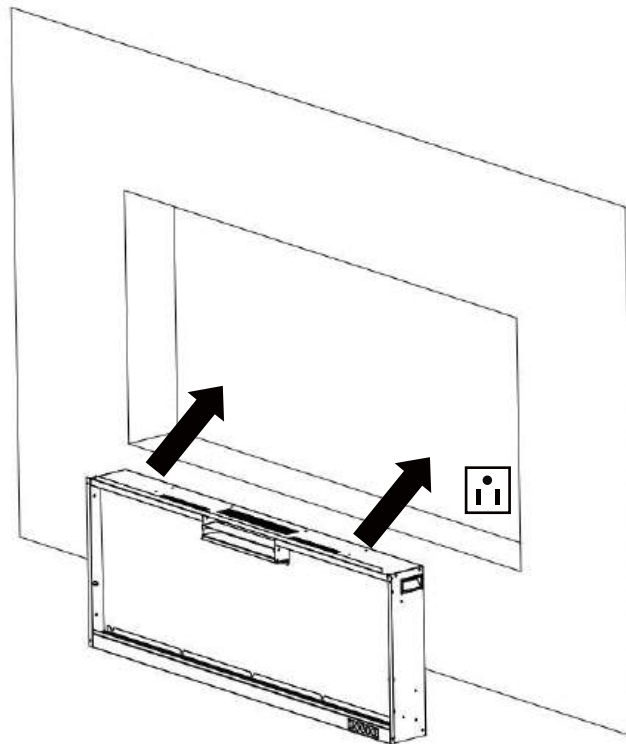
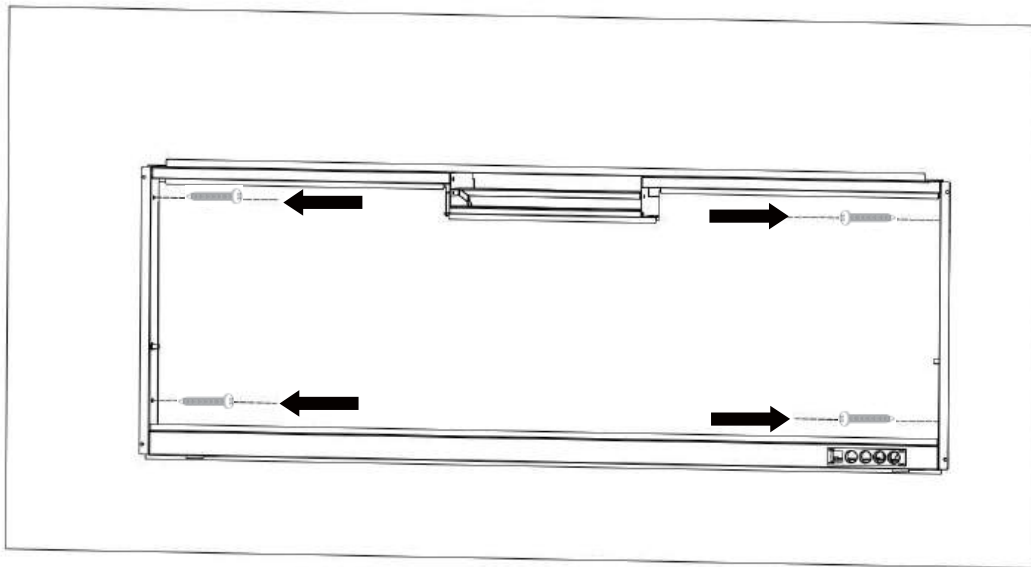

Fig. 2-3
Fig. 2-4
E. Have two adult people to lift up the fireplace and insert it into the rough-in frame and then secure it by installing **4** wood screws (**B**) through the holes (**Fig. 2-3, Fig 2-4**).